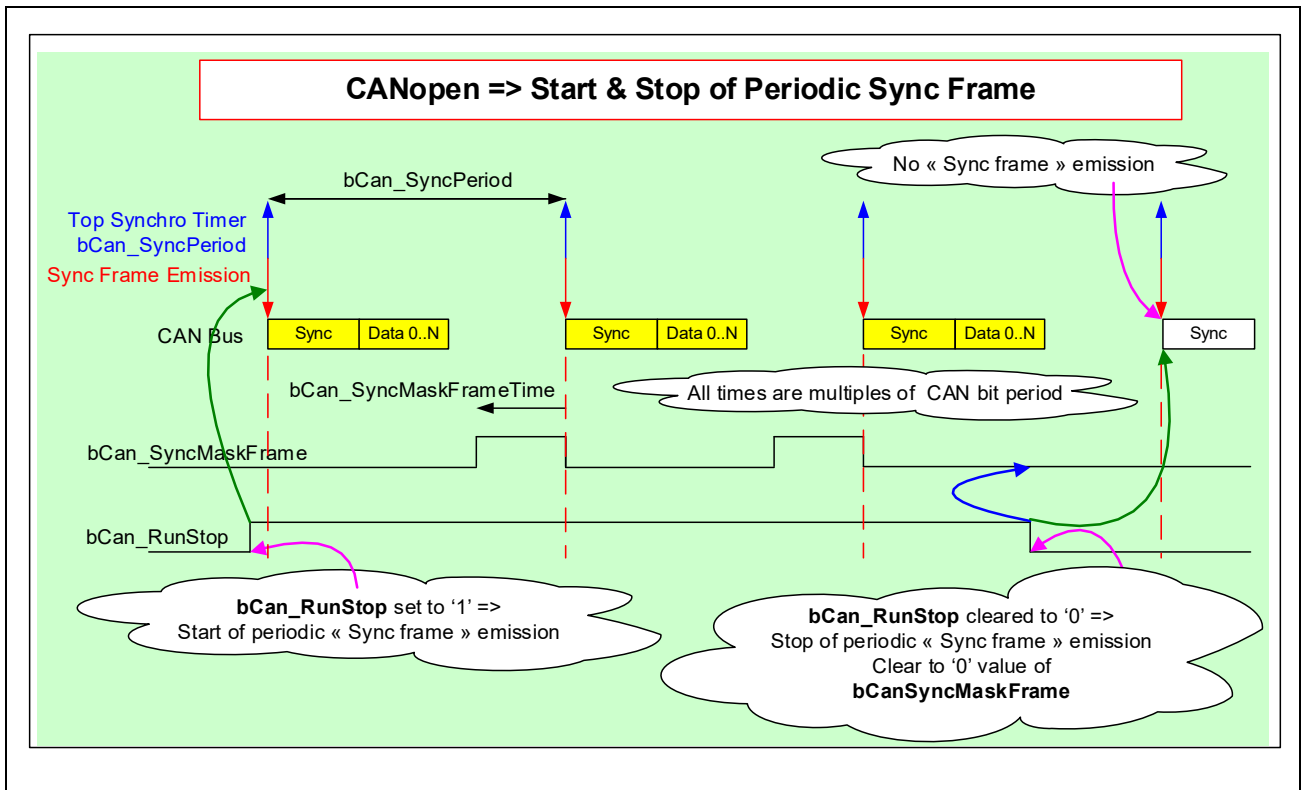

Figure 6.5 CANopen: Start and Stop of Periodic Sync Frame
- See **Figure 6.5, CANopen: Start and Stop of Periodic Sync Frame**.